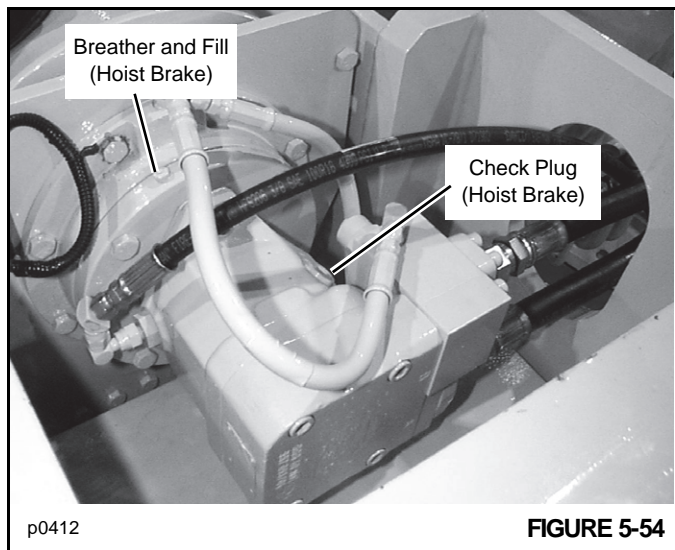

FIGURE 5-54
3. Clean around the area of the brake breather Figure 5-54. Remove the breather.